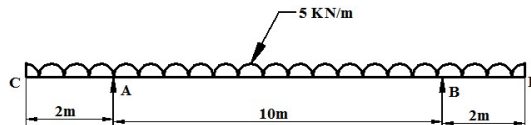

Figure 27
16. Draw shear force and bending moment diagram for the loading factor on the beam as shown in **Figure 27**. Indicate where the inflection and contra flexure points are located. Also locate maximum bending moment with its magnitude